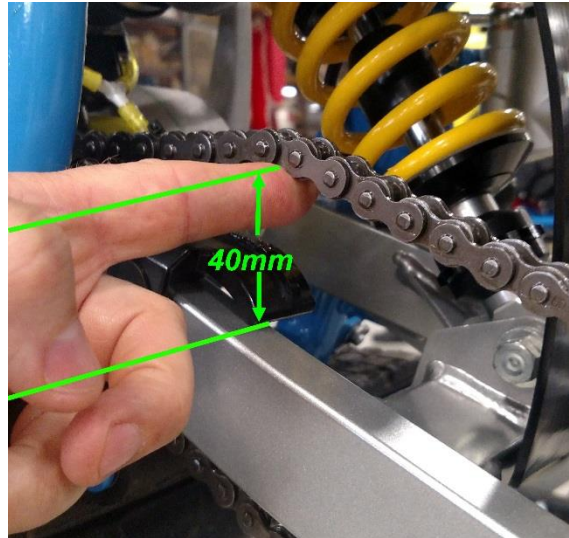

Figure 2
2. For proper adjustment, the chain should have 40 mm (1 1/2") free movement just behind the chain guard with no load on the bike (figure 2)